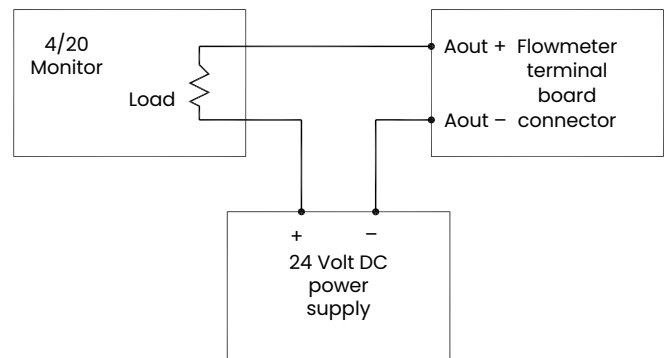
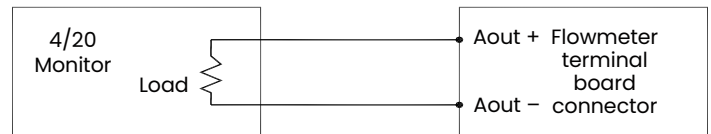

Figure 27: Analog output passive wiring
Figure 28: Analog output active wiring
3. Locate the 26-pin terminal block (TB2) shown in Figure 30 on page 28, and wire the I/O terminal as indicated on the label inside the wiring access cover (see Figure 13 on page 31 and Figure 29 on page 16). For a wiring diagram see Figure 27 on page 14 or Figure 28 below.